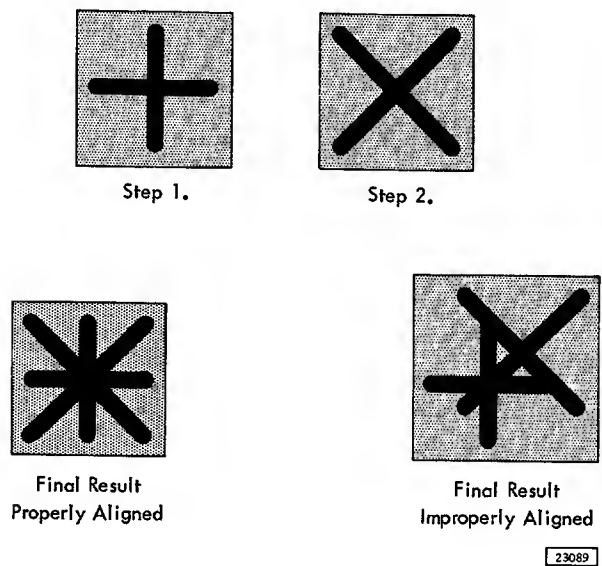

Figure 26. Program Checkout Technique
The logic of a program check is simple: (1) plot a plus symbol (+) at the start of the program (outside the graph area), and (2) return to this location at the end of the program to superimpose an X over the plus symbol. Refer to Figure 26 for an example.